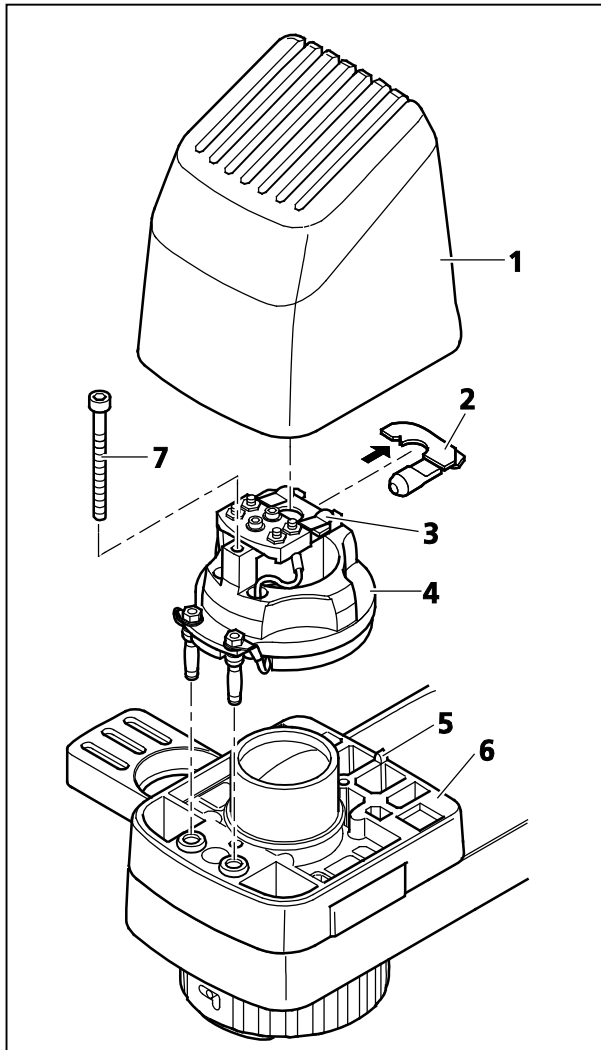
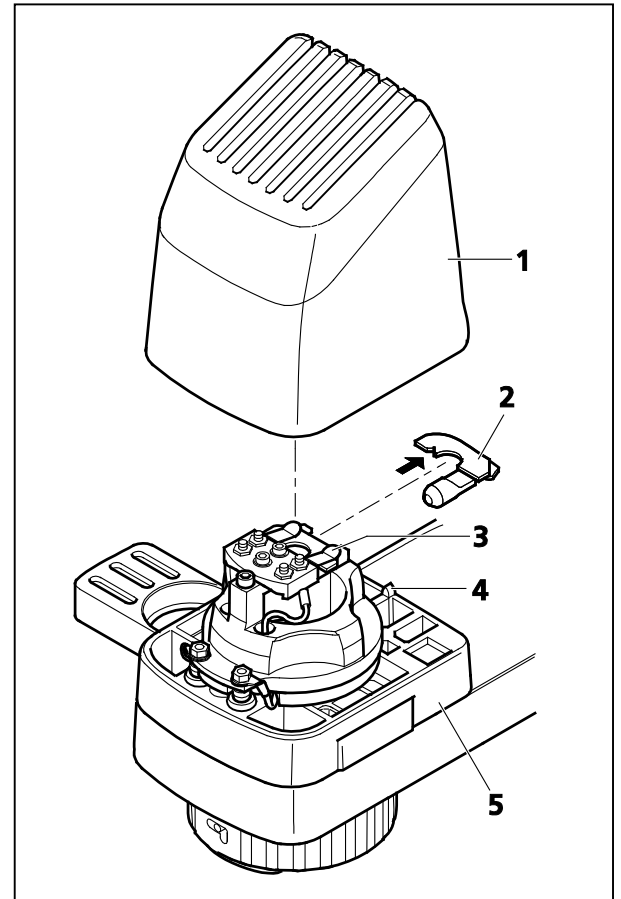

Fig. 3-13 Attaching the HAL Illuminator
Fig. 3-14 Changing the Halogen Lamp for Transmitted Light
- Insert the illuminator base with its contact pins into the slot (Fig. 3-13/6) of the carrier, as far as it will go.
- Use the screw (Fig. 3-13/7) to fasten the illuminator base in place.
- Take the halogen lamp (Fig. 3-13/2) out of the packaging box and insert it into the mount (Fig. 3-13/3). In so doing, make sure that the tip of the mount engages in the centering notch of the carrier plate (see arrow in Fig. 3-13) of the halogen lamp.
- Plug the illuminator cap (Fig. 3-13/1) onto the illuminator base (Fig. 3-13/4). For proper alignment, slide the notch in the cap onto the alignment stud (Fig. 3-13/5).
- Pull the illuminator cap (Fig. 3-14/1) upward off the carrier support (Fig. 3-14/5).
- Pull the malfunctioning halogen lamp (Fig. 3-13/2) out of the mount (Fig. 3-13/3).
- Insert the new halogen lamp (Fig. 3-13/2) into the mount (Fig. 3-14/3). In so doing, make sure that the tip of the mount engages in the centering notch of the carrier plate (see arrow in Fig. 3-13) of the halogen lamp.
- Plug the illuminator cap (Fig. 3-14/1) onto the carrier support (Fig. 3-14/5). For proper alignment, slide the notch in the cap onto the alignment stud (Fig. 3-14/4).